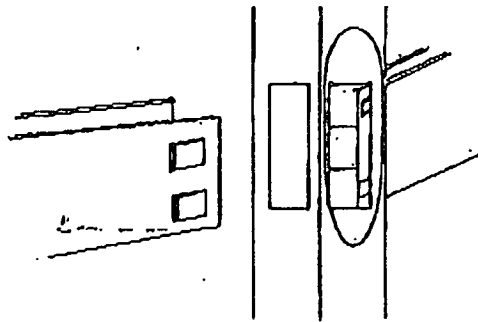

FIG. 7
Step 4. Slide the rail into the bottom hole in the post (fig. 7). Proceeding down the fence line, place the next rail into the next hole and insert the bottom rail into the post.